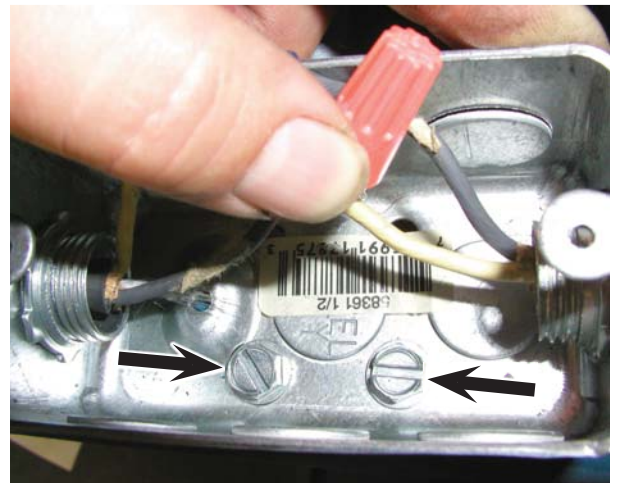

FIGURE 10
- Remove the alarm junction box by removing the (2) self tapping bolts attaching it to the ATC. See Figure 10.